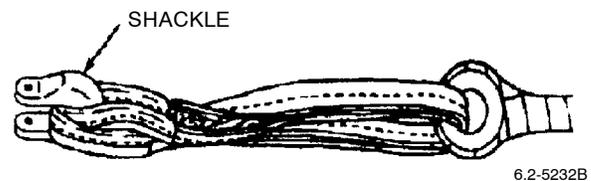

Figure 14. Positioning of End Loops
b. Position end loops of straps on shackle (Figure 14).